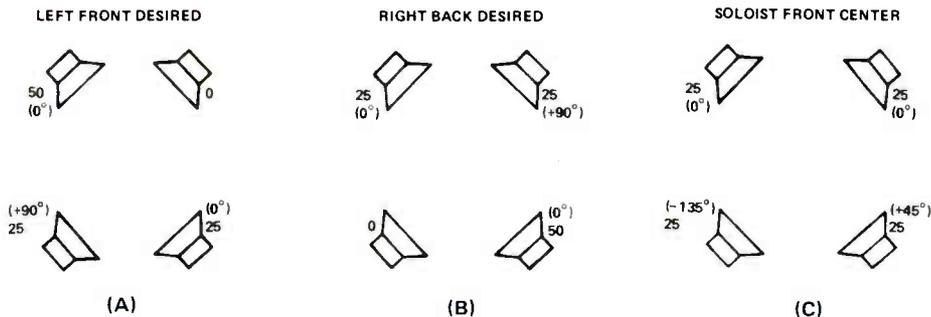

FIGURE 2. POWER AND PHASE DISTRIBUTION FOR THE COLUMBIA SQ SYSTEM.
The overall result of the system produces the power distribution shown in Figure 2. In this figure, the numbers in parentheses represent the phase shift given the signal while the other numbers represent the percent power for each channel. At (A), sound would ideally be coming only from the left front speaker. As you can see, maximum frontal separation is achieved with 50% of the power in the left front speaker and no power at all in the right. A similar situation exists when only the right rear speaker should be producing all the sound, as shown at (B). Notice that although there is no power in the adjacent rear speaker, one-half of the power is in the other two.